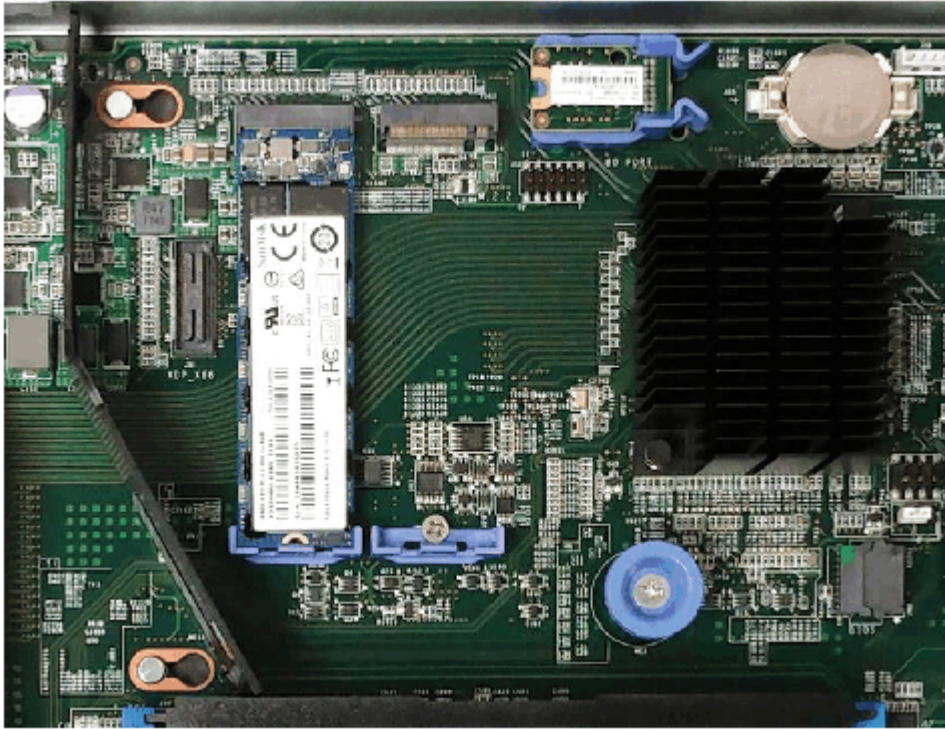

Figure 111. Locating the TPM
6. Locate the TPM, which is between the boot drive and CMOS battery, as shown in Figure 111 on page 148.